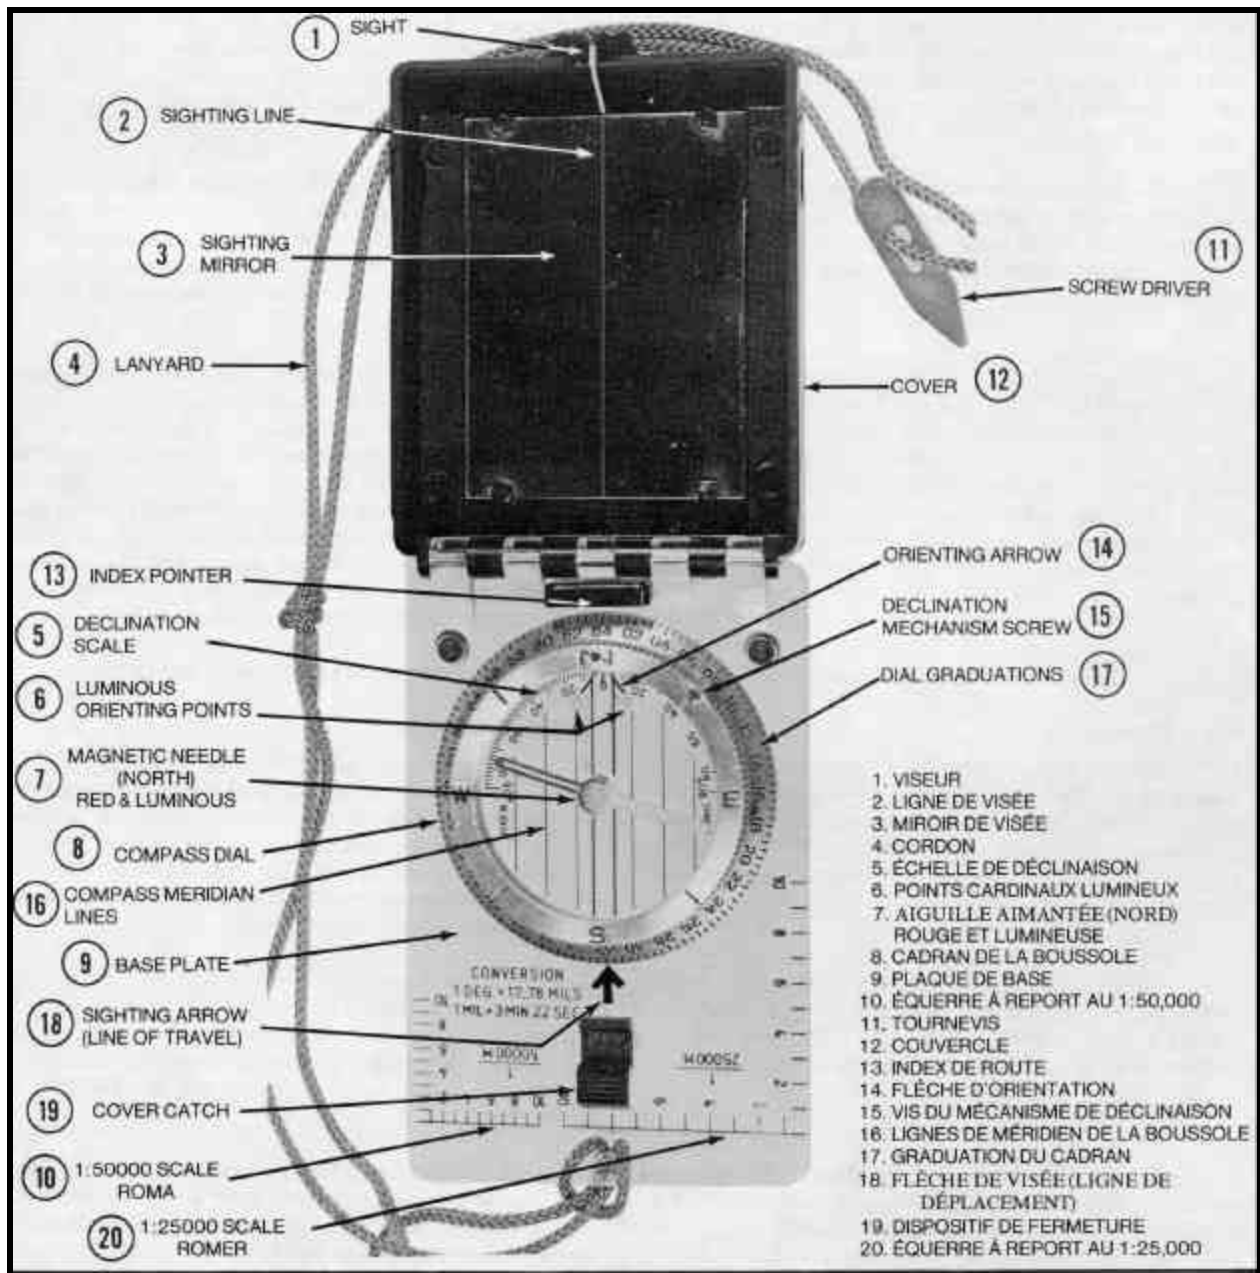

Figure 8-4 The Silva Ranger Model Compass
1. The Silva Ranger Model Compass, type 15 TD, Canadian modified, is calibrated in mils. It is in many respects easier and more convenient to use than a prismatic compass and when used correctly it will serve with good accuracy. Figure 8-4 shows the compass opened out flat.